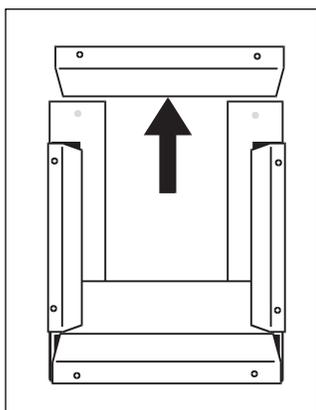

Figure 35. Removal of the Back Portion of Rainguard
7. If installing an External Flue Terminal, remove the entire back panel of the rainguard (see Fig. 35).